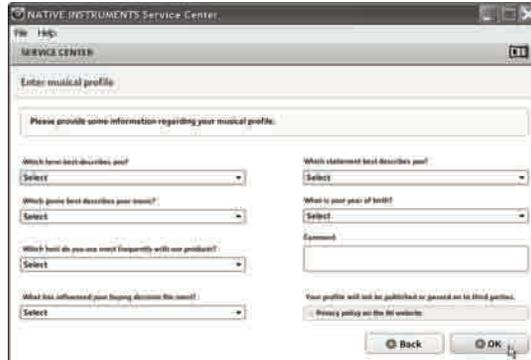

Figure 4.25
4. Please provide information about your musical profile and click **OK**. (Figure 4.25)